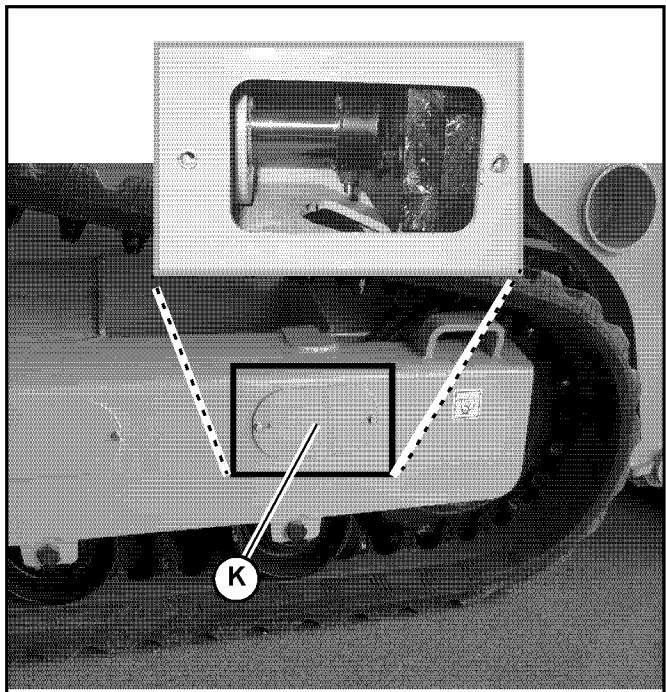

Fig. 143 – Tension Cylinder Stop
16. Once the track tension cylinder has returned to the operating (extended) position, re-install cylinder stop (K, Fig. 143).